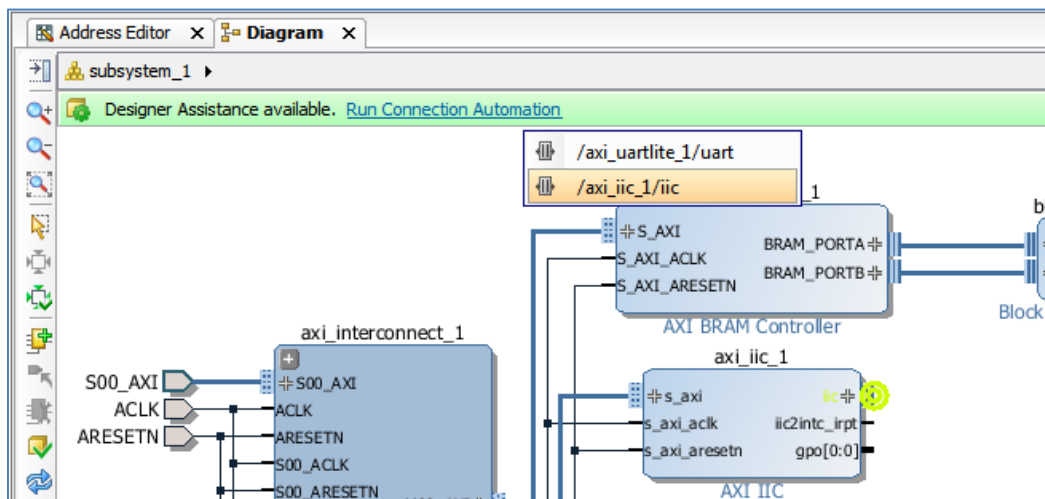

Figure 26: Run Connection Automation
1. Click on **Run Connection Automation** link, in the banner at the top design canvas, and select **/axi_iic_1/iic**, as shown in Figure 26.